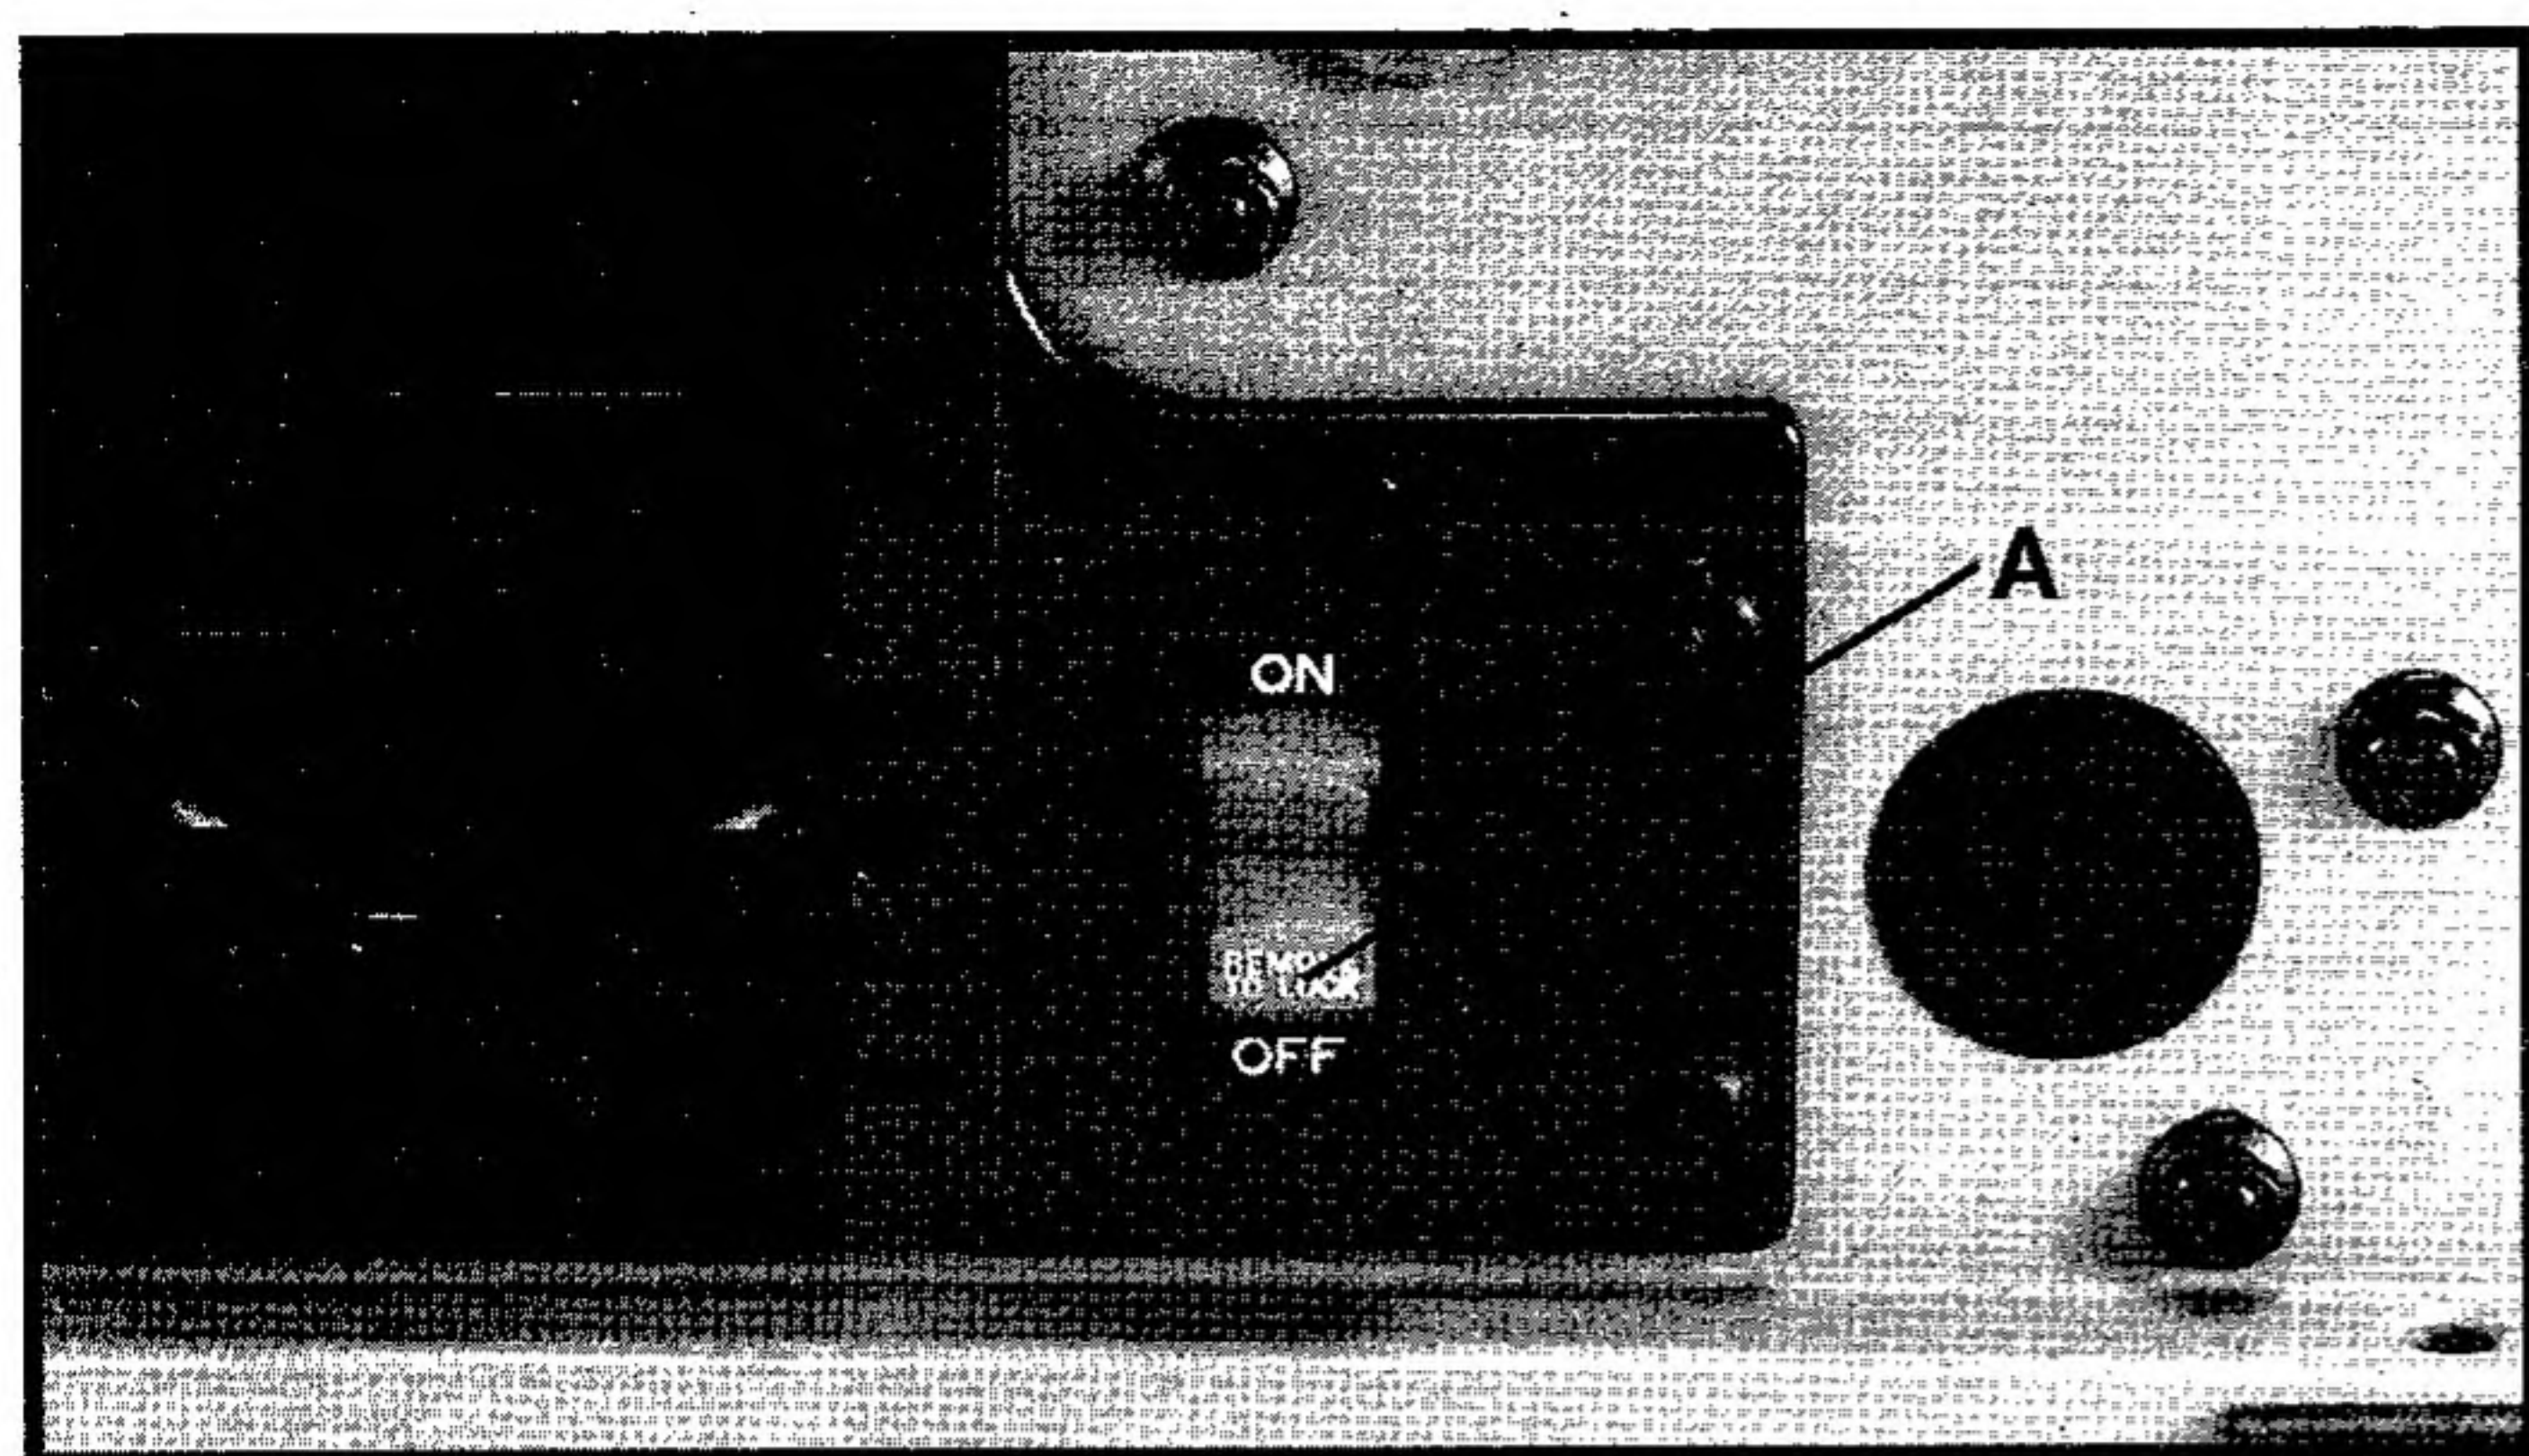

Fig. 21
1. The on/off switch (A) Fig. 21 is located on the front of the jointer. To turn the machine "ON", move switch (A) up to the "ON" position.